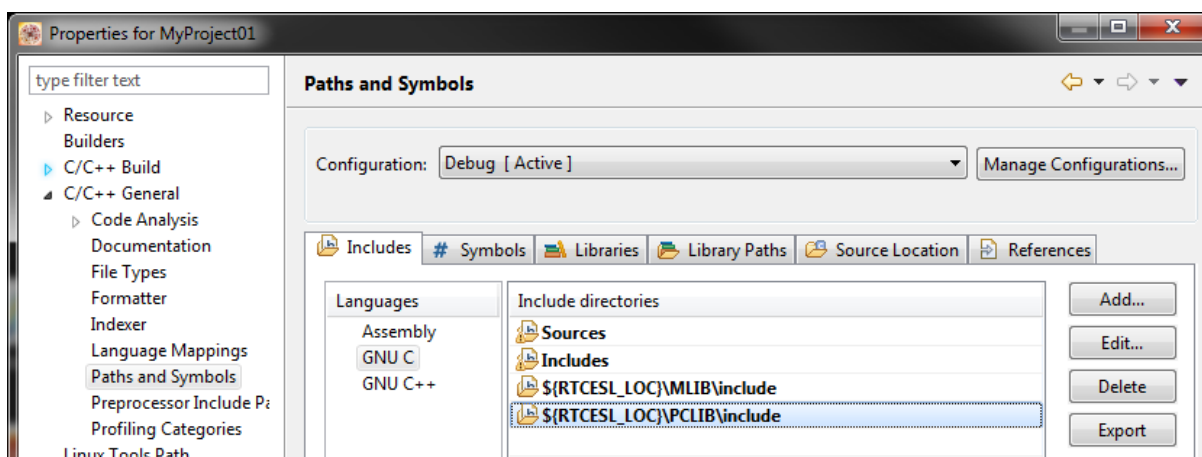

Figure 1-24. Compiler setting
15. In the right-hand dialog, select the Includes tab, and click GNU C in the Languages list. See Figure 1-24.
20. Click OK, and you will see the added in the list. See Figure 1-24. Click OK.